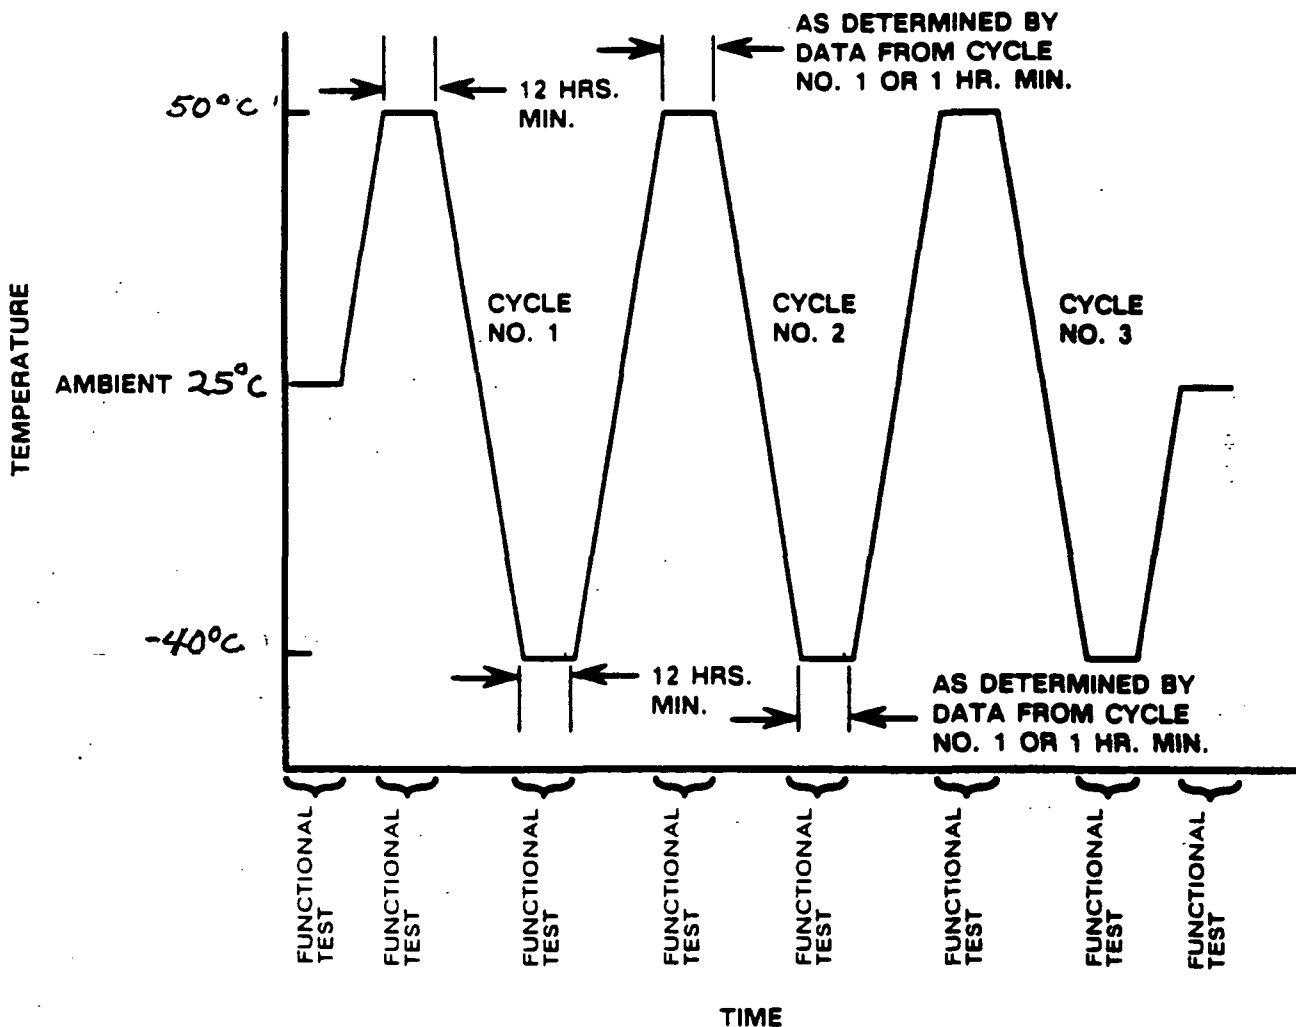

FIGURE 4
degrees C. Place a humidity indicator in the chamber. Seal the porthole, and fill the chamber with dry nitrogen gas. When the relative humidity (RH) goes below 70 %, place the vacuum container in the temperature chamber. Verify the RH is still < 70% . Connect the container pipe to a diffusion pump, and begin mechanical roughing. Follow the manufacturer's operation sequence for the diffusion pump in order to achieve 1×10^{-5} torr. Follow the cycle and test points in Figure 4. Verify temperature soaks using the AD590 sensor. Perform all functional tests after one hour soak at the indicated temperatures.